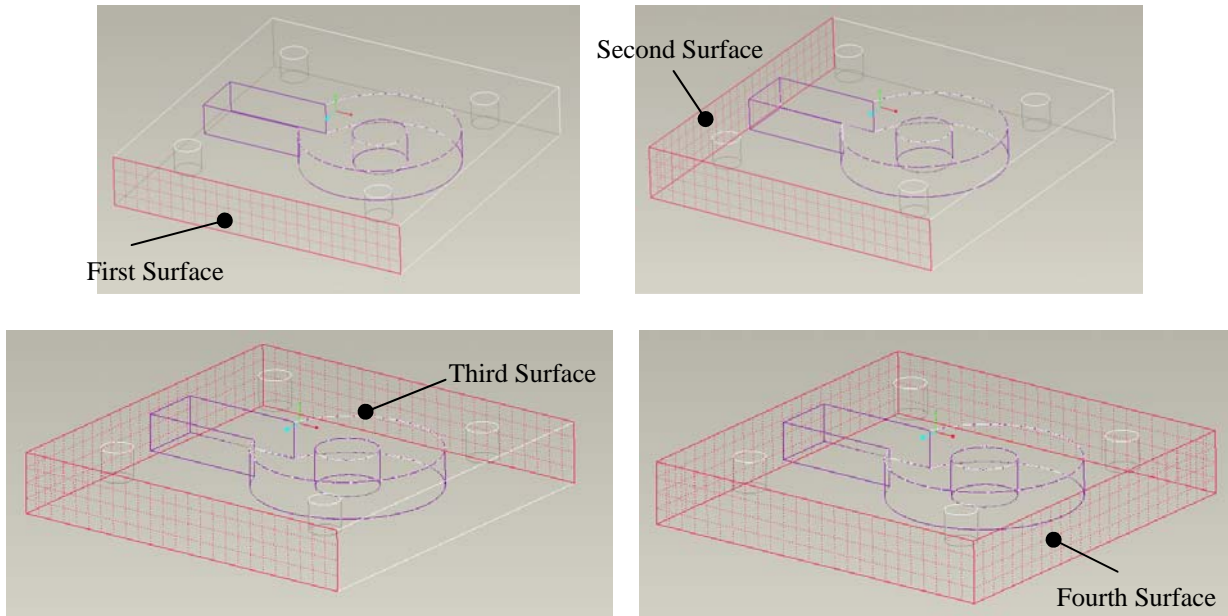

Figure 17: Choose the Surfaces to Profile.
- Step 11:** Choose the four surfaces shown in Figure 17. Use Ctrl to select multiple surfaces.